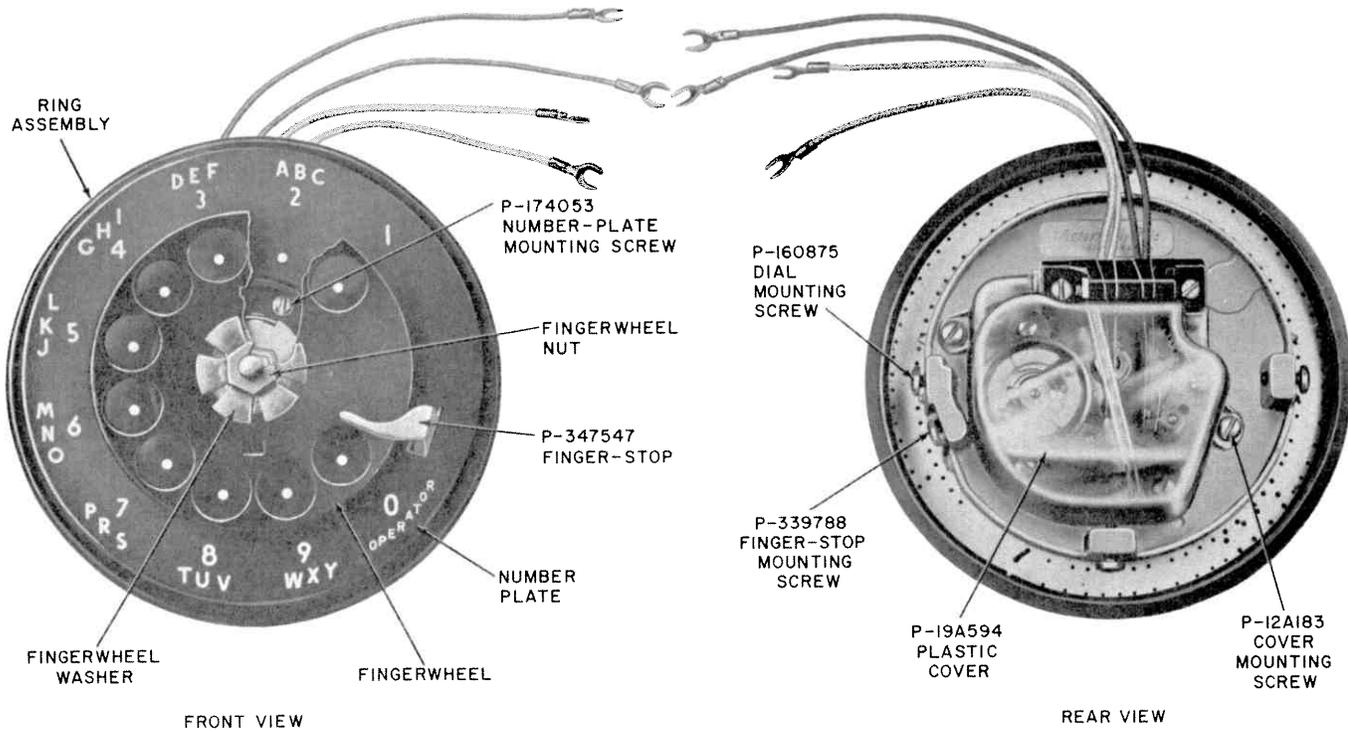

Fig. 6 — 7-Type Dial
2.04 See Tables F and G and Fig. 6 for usage and assembly of parts.